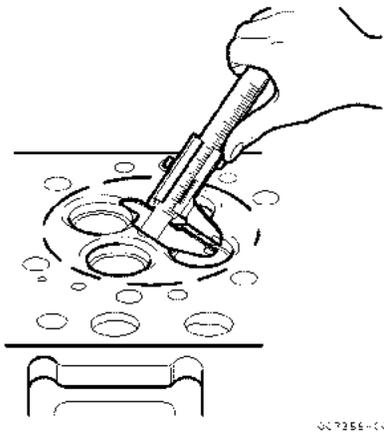

Figure 5-65
- Check the intake / exhaust valve seats. Check the surface and width of the valve seats. If they are too wide, or if the surfaces are rough, correct to the following standards (Figure 5-65):